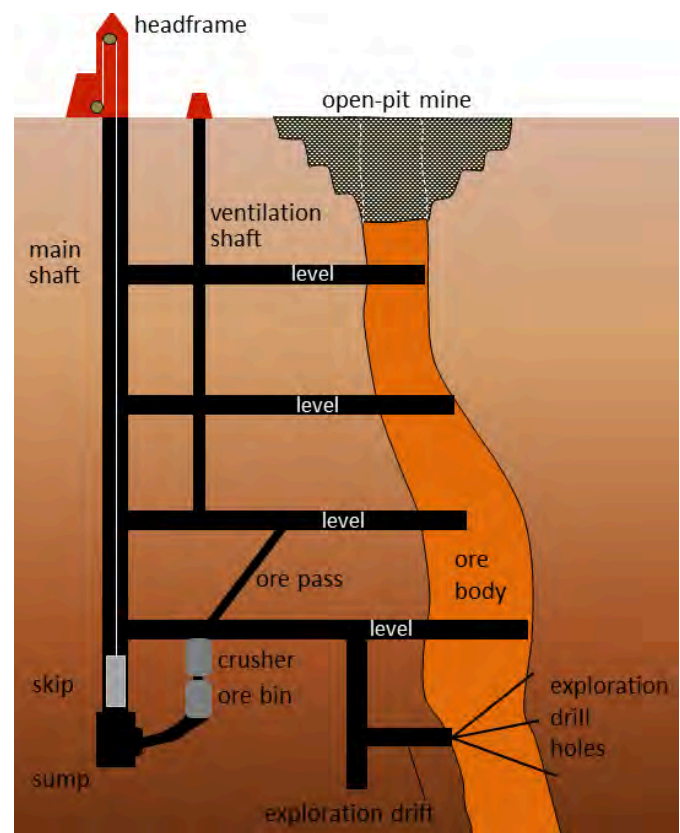

Figure 2.4.4: Schematic cross-section of a typical underground mine. [Image Description]
Metal deposits are mined in a variety of different ways depending on their depth, shape, size, and grade. Relatively large deposits that are quite close to the surface and somewhat regular in shape are mined using **open-pit mine** methods (Figure 2.4.4). Creating a giant hole in the ground is generally cheaper than making an underground mine, but it is also less precise, so it is necessary to mine a lot of waste rock along with the ore. Relatively deep deposits or those with elongated or irregular shapes are typically mined from underground with deep vertical **shafts**, **declines** (sloped tunnels), and **levels** (horizontal tunnels) (Figure 2.4.4). In this way, it is possible to focus the mining on the ore body itself. However, with relatively large ore bodies, it may be necessary to leave some pillars to hold up the roof.
In many cases, the near-surface part of an ore body is mined with an open pit, while the deeper parts are mined underground (Figure 2.4.4).
Figure 2.4.4 image description: An open-pit mine is dug to access the ore that is near the surface. For ore farther down, an underground mine will be constructed to access the ore. This diagram shows the main shaft (a large vertical tunnel) with four levels (horizontal tunnels) connected to it. The levels run from the main shaft into the ore body. A ventilation shaft runs up through the four levels in between the main shaft and the ore for air circulation.
[Return to Figure 2.4.4]
- Figures 2.4.4, 2.4.5: © Steven Earle. CC BY.